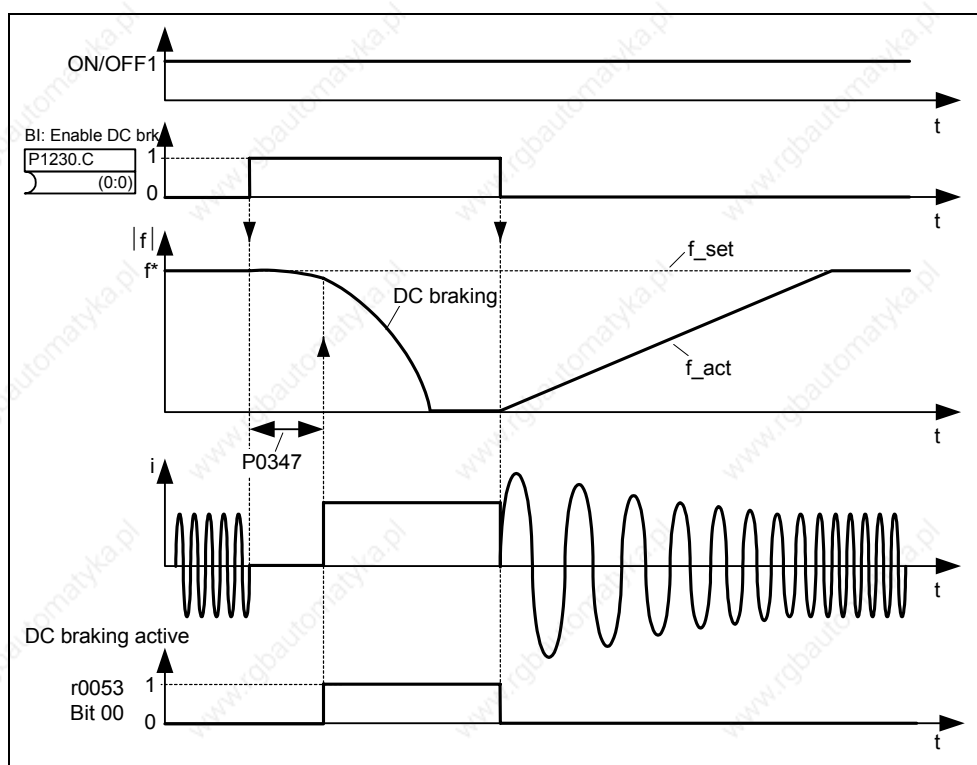

Fig. 3-74 DC braking after external selection
1. Enabled and selected using BICO parameter P1230 (refer to Fig. 3-74)